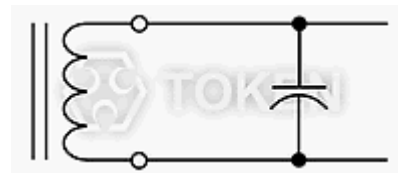

Figure 2. LC Circuit
For optimum performance, the RFID coil is used in a parallel LC circuit as shown in figure 2. Adding a capacitor to the circuit maximizes the read distance. The LC circuit is designed to resonate at the operating frequency of the reader. To calculate the value of the capacitor, use the following equation: **Capacitance (C) = 1 / (Inductance L × (2π × Frequency f))2**